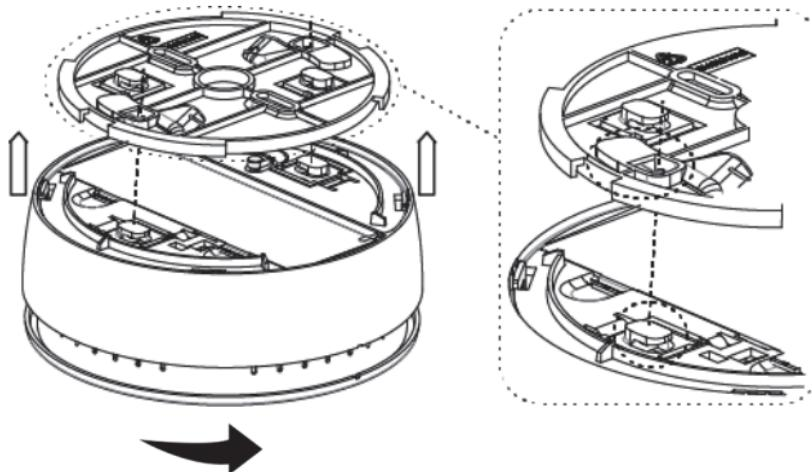

Figure 5
6. To Install the sounder on the mounting bracket, align the base with the bracket, insert the base hooks fully into the bracket cavities and then turn the detector in the direction of the arrow to secure (*see Figure 5*).